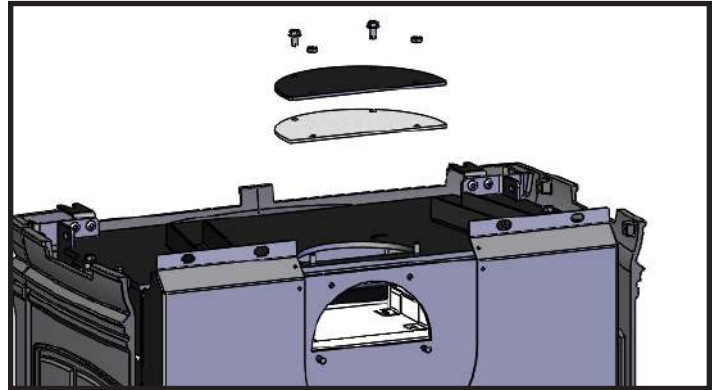

Figure 8: Flue Conversion Step 5.
5. Install the Flue Opening Cover and casket on the top (Figure 8), Ensure the gasket is in place and laying flat against the stove. Use the removed bolts to secure. Torque the bolts to hand tight then a 1/4 turn at a time until firm.